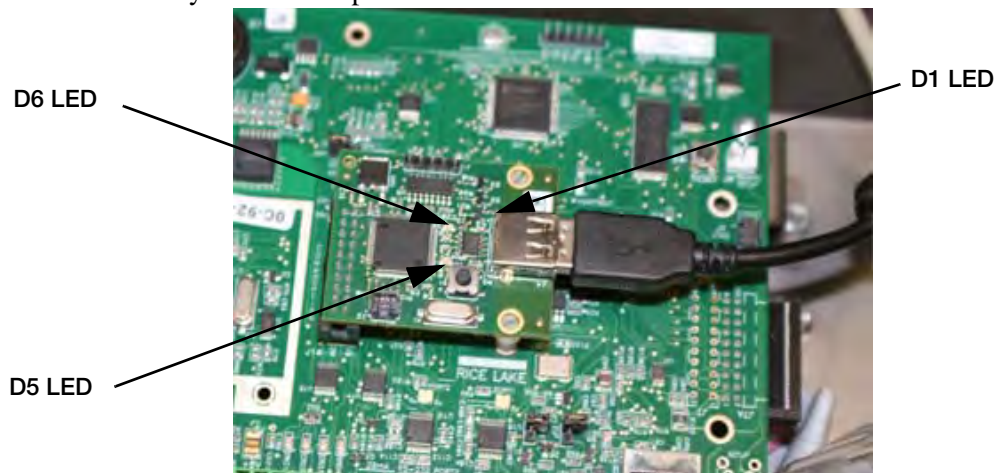

Figure 2-15. Installing the USB Option Card
5. Several signal LEDs are located on the USB option board as shown in Figure 2-15.